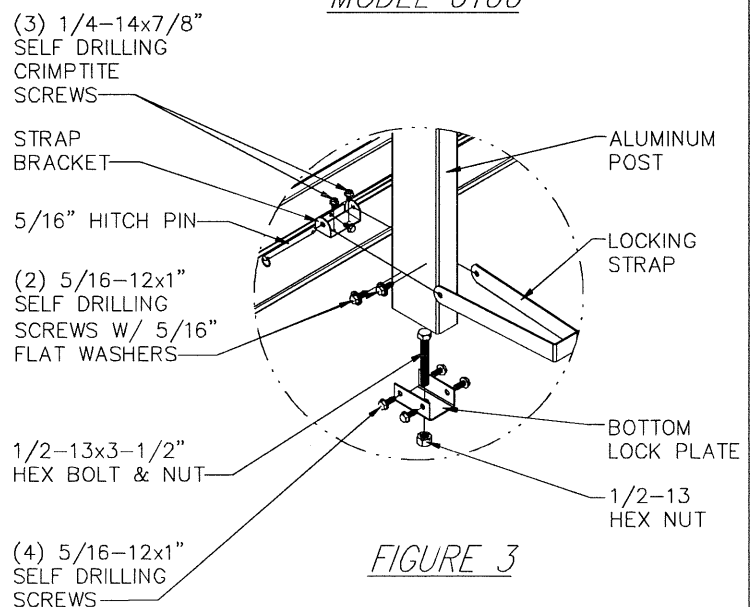

FIGURE 3
ASSEMBLE THE BOTTOM LOCK PLATE BY SLIDING (1) 1/2-13x3-1/2" BOLT DOWN THROUGH THE TOP THE BRACKET AND SECURING WITH THE HEX NUT FROM BELOW. ATTACH THE BOTTOM LOCK PLATE TO THE BOTTOM OF THE OUTER POST WITH (4) 5/16-12x1" SELF DRILLING SCREWS AS SHOWN IN FIGURE 3.